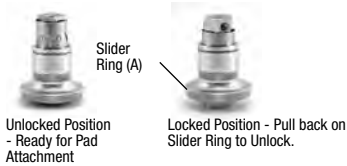

Figure 4
1. Before putting a pad onto the adaptor, verify the adaptor is in the unlocked position. To unlock the adaptor pull back on the slider ring. (A) Fig. 4. This is best done with the adaptor mounted to the Polisher.
4. To remove the pad from the adaptor pull back on the slider ring. (A) Fig. 4. This is best done with the adaptor mounted to the Polisher.